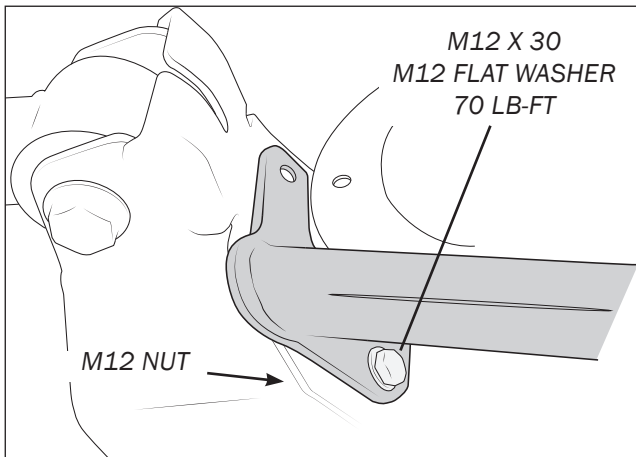

Figure 8
- d. Drill the remaining hole in the control arm bracket and treat for corrosion, then install the remaining bolt (fig. 8).